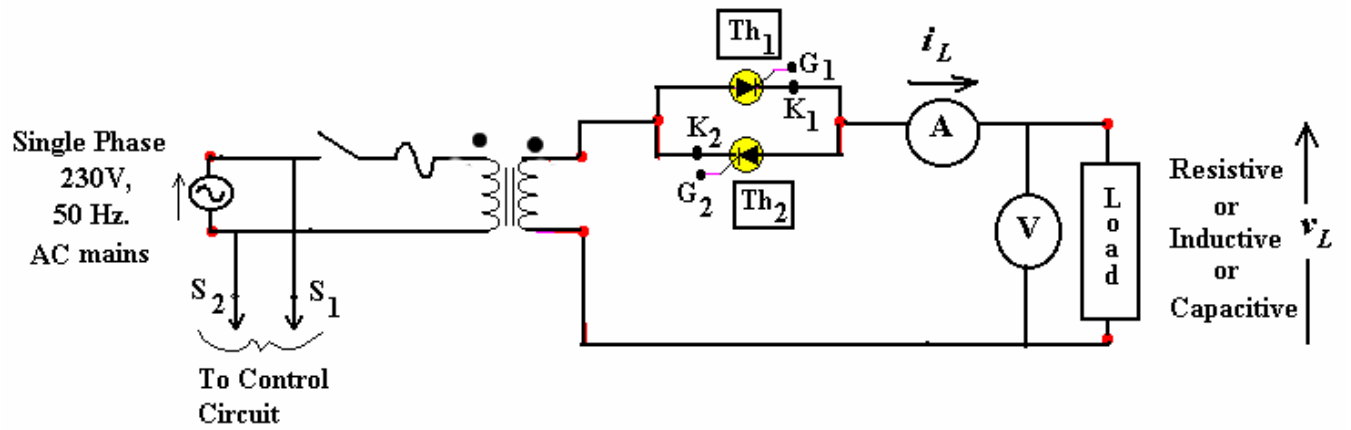

Fig. 3.1: Power Circuit Diagram of the Single-phase thyristorized AC-AC voltage controller, with proper metering and different types of loading.
Refer to Figs. 3.1 for understanding power circuit of the converter.
- a) Try to relate the power circuit, as drawn on the front panel of the converter, with the circuit diagrams of Fig. 3.1 given in this instruction sheet. Identify the nodes G_1 , K_1 , ..., G_2 ,
a) **WITH RESISTIVE LOAD:** Complete the wiring of the power circuit with resistive load as per Fig. 3.1. **(8 no.s 25W, 230V and 8 no.s 50W, 230V wall-mounted loading resistors are all to be connected in parallel and one by one to be switched on, if loading is to be increased.)** Power up the control circuit and then power up the power circuit. Keeping the load resistance constant, now vary the firing angle, α . Fill up table 3.1 (All columns except the column marked 'calculated') for three values of firing angles, α_1, α_2 and α_3 . For any one firing angle setting (ask the teacher), take the following waveforms from the dual channel power scope: